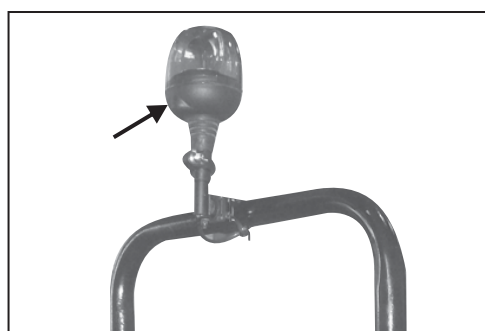

Fig. 3.5d
d. **Beacon Light** (optional): To be used according to your country's regulation. This light is detachable type and can be removed based on requirements (fig. 3.5d).